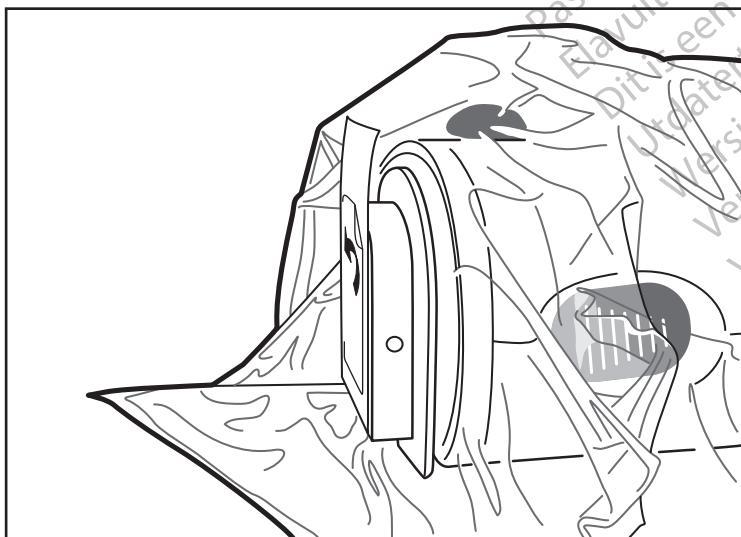

**Figure 6. Positioned Bag**
7. To position the bag, stop advancing the MDUS PLUS Motordrive Unit into the bag as soon as a snug fit is obtained. The sterile operator does not need to advance the MDUS PLUS Motordrive Unit all the way to the bag's faceplate. It is normal to have space between the nose of the MDUS PLUS Motordrive Unit and the faceplate on the bag (Figure 6).